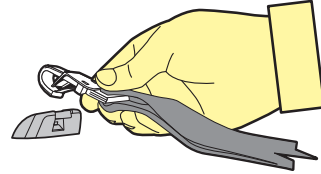

Figure 7
**Step 5:** Hook the attachment clip to the anchor fitting. Ensure there are no twists in the top tether strap (refer to Figure 7).